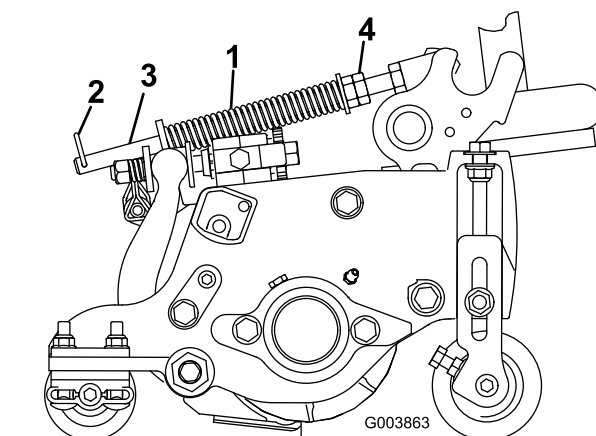

Figure 14
1. Make sure the hairpin cotter is installed in the rear hole in the spring rod (Figure 14).
2. Tighten the hex nuts on the front end of the spring rod until the compressed length of the spring is 12.7 cm (5 inches) (Figure 14).